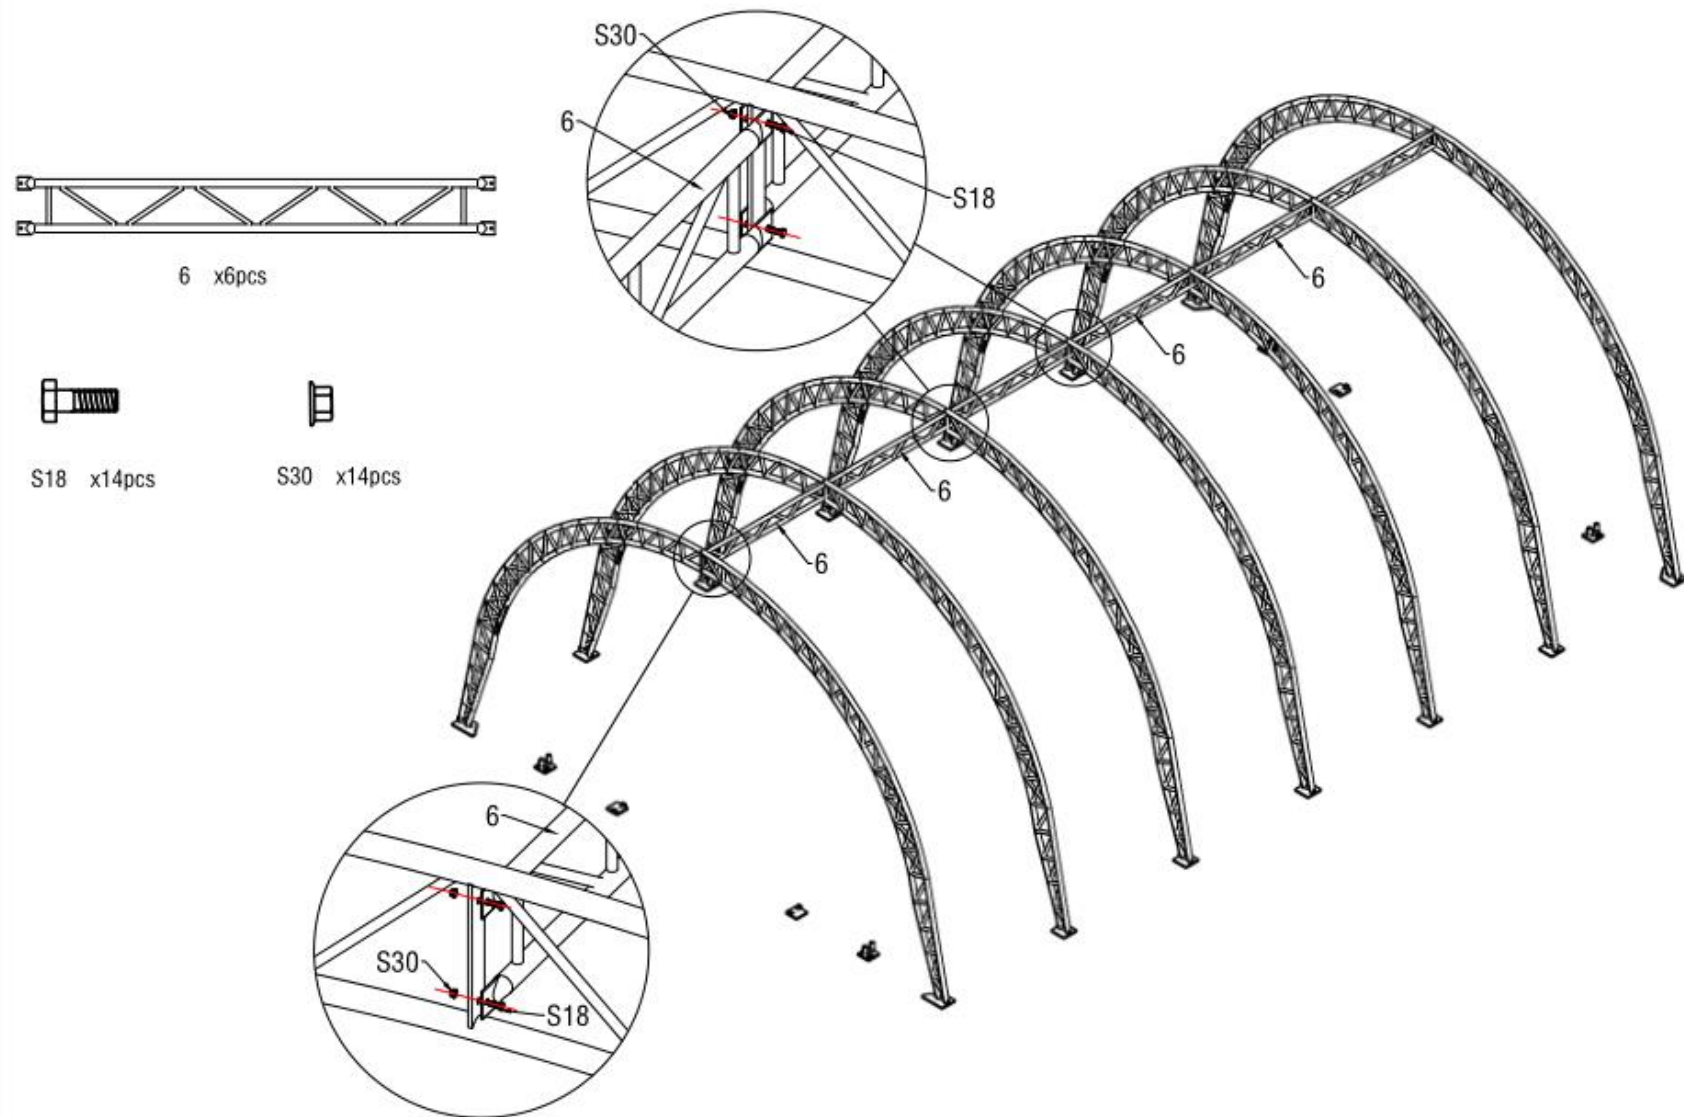
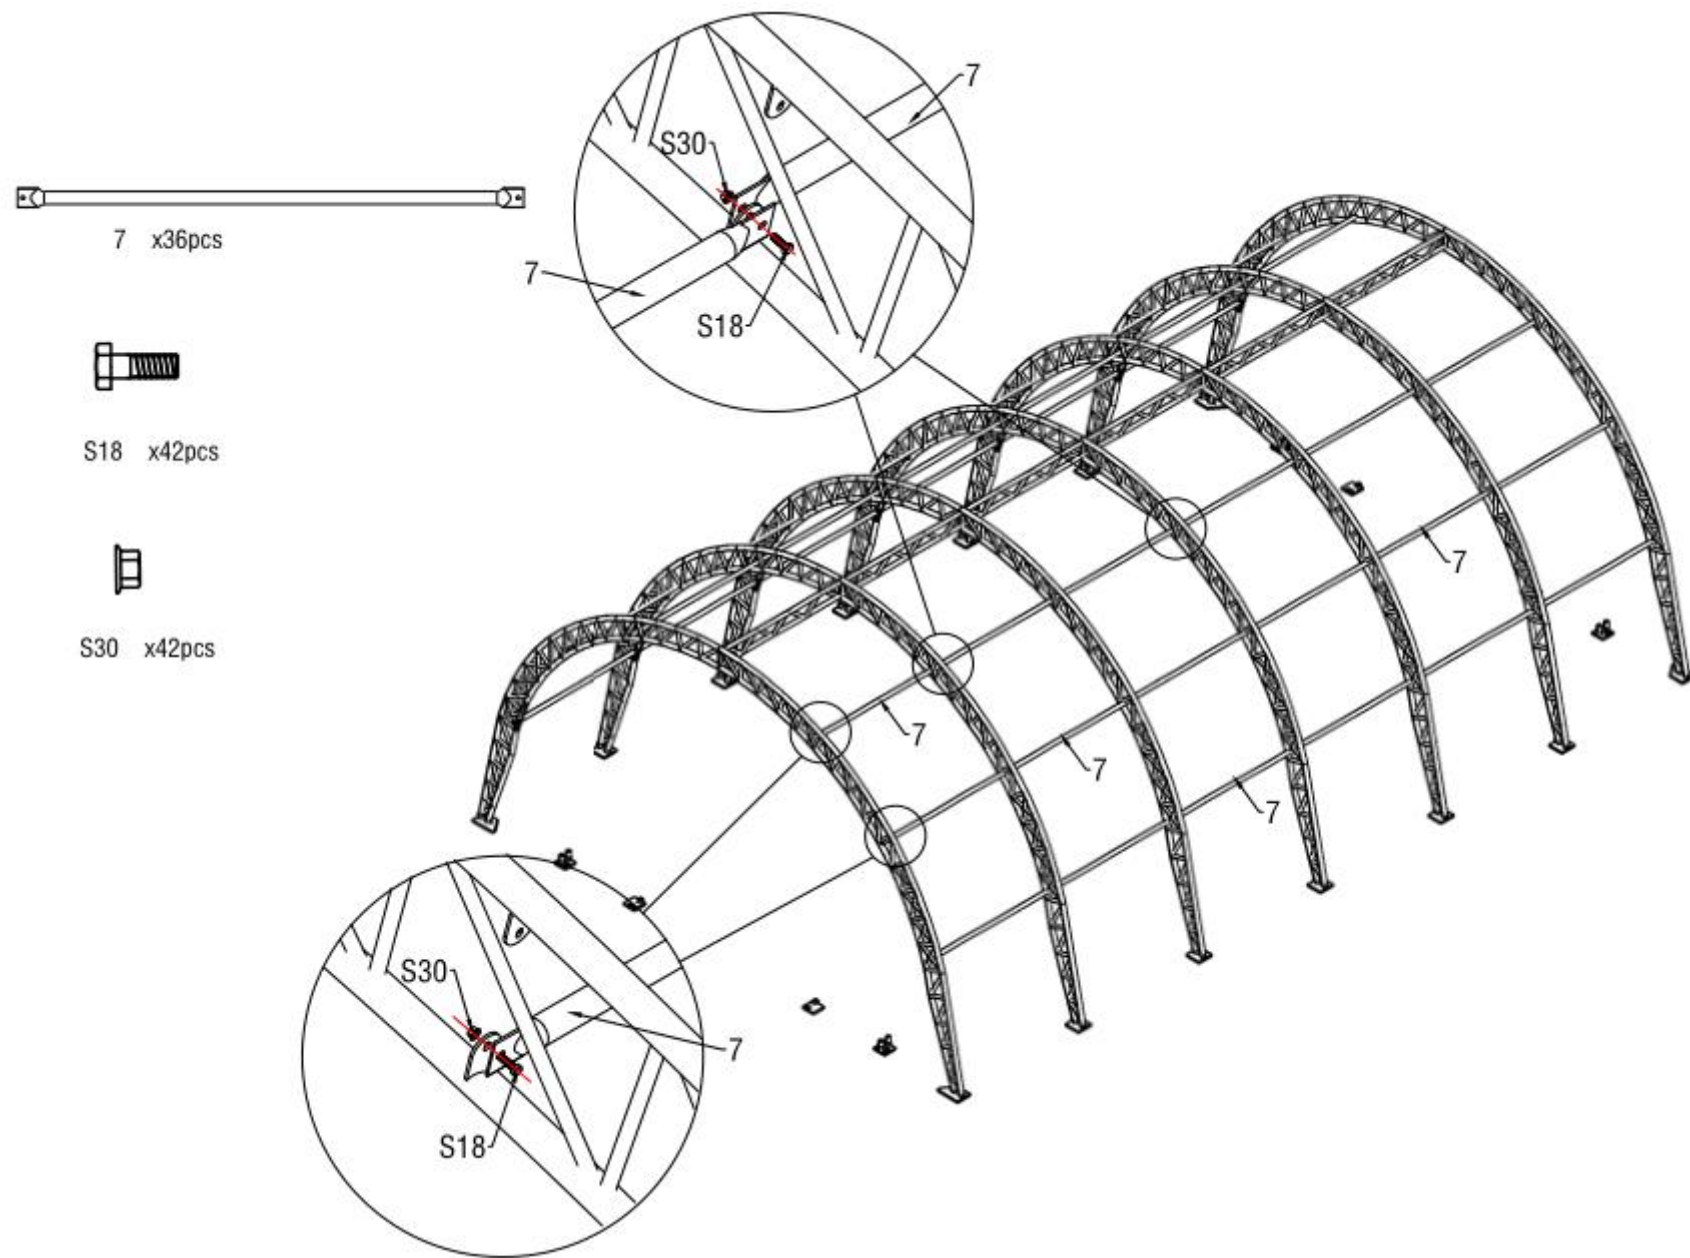

Figure 7
Figure 8
4. Above Figure 7 shown when finish installing all the arches into the base plates, use Double Trussed Purlins (No.6) to connect them by Screw M10x30 (No.S18) . Then use Purlins(No.7) to connect the arches by Screw M10X30 (No.18). In this turn, fix all other purlins. Finished stretch frame as below(Figure 8)
5. Fix clips(No.10) on purlins(No.7) and install the Diagonal Support Tube For purlin (No.8) on clips as figure 8 shows. Please connect the Diagonal Support Tube For purlin (No.8) between arch frame and purlin (No.7) by using Screw M10x30(No.S18) and Screw M10x50(No.S17) with plain washer M10(No.25).